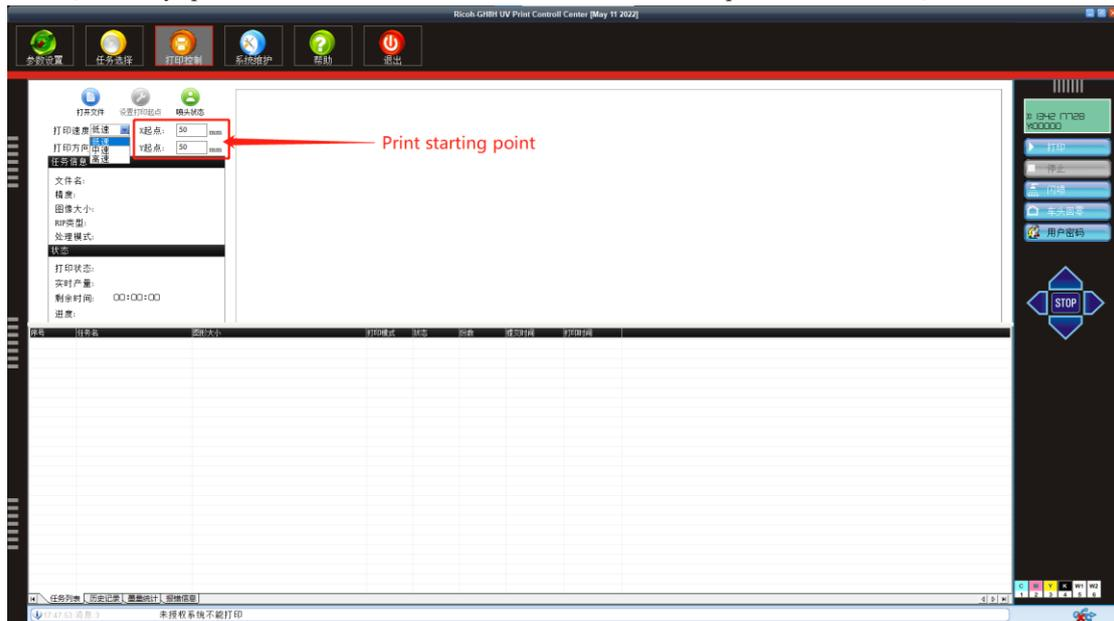
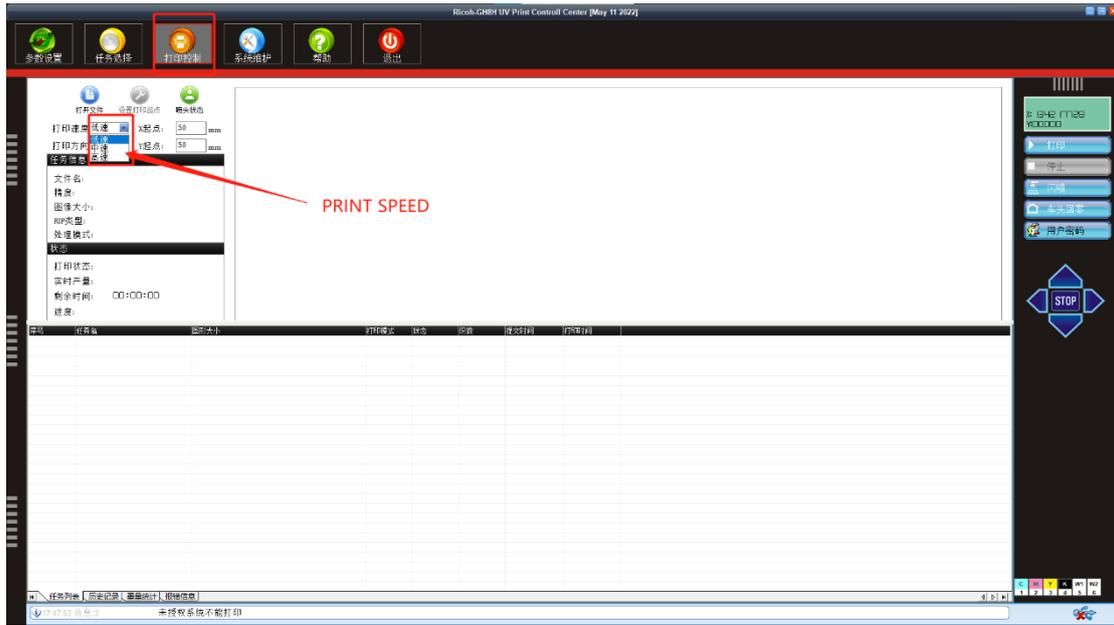

Figure 2. Starting position
Figure 3. Printing speed
3. Determine the printing starting position: in the printing control interface, XY, fill in the corresponding values to determine the printing starting point, as shown in Figure 2; ink cart speed is the printer printing speed, and there are three speeds to choose, as shown in Figure 3. Printing speed; there are three directions to choose, as shown in Figure 4 (one-way picture is clearer and bidirectional speed is faster).